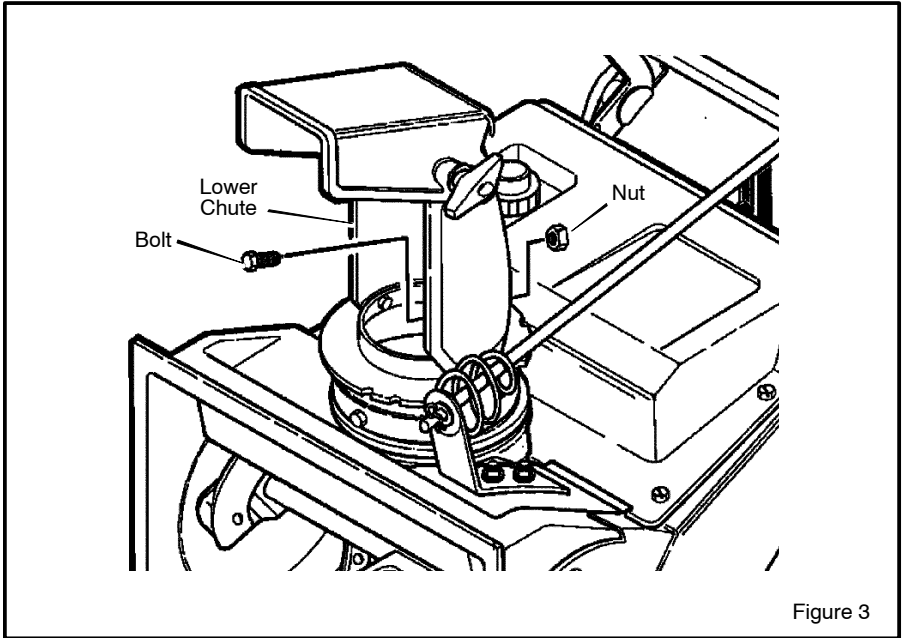

Figure 3
2. Tip the **lower chute** backward until the hole in the chute ring is aligned with the hole in the **lower chute**. (see Figure 3).